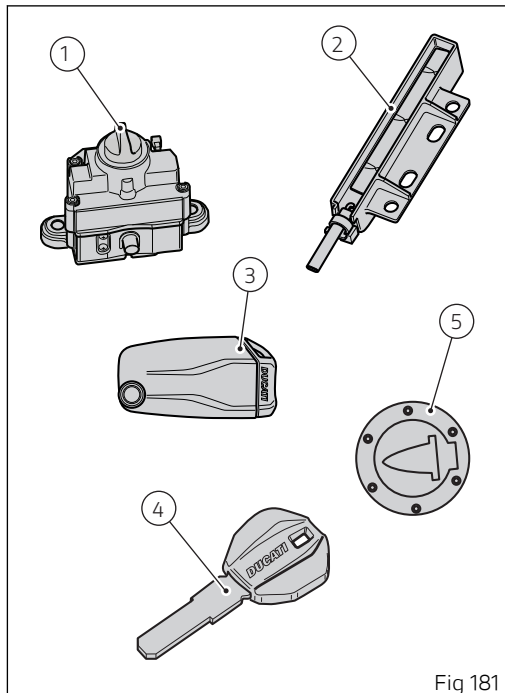

Fig 181
The "Hands free" unit (1, Fig 181) is located on the tank front end.
(1, Fig 181). When speed is not equal to zero, perform key-off by turning the Hands free button (1, Fig 181).
Key-On can be performed by pressing button (6) on the handlebar and with the presence of the active key (3, Fig 181).
Key-Off can be performed by pressing the button (6) on the handlebar. It can also be performed without the key (3, Fig 181) only if motorcycle speed is equal to zero.
Key-On can be performed by turning button (7) on the Hands free unit (1, Fig 181) and with the presence of the active key (3, Fig 181).
Key-Off can be performed by turning button (7) on the Hands free unit (1, Fig 181), also without the key (3, Fig 181).
Key-On can be performed by pressing the gray button (6) on the handlebar and with the presence of the passive key (4, Fig 181).
Key-Off can be performed by pressing the gray button (6) on the handlebar. It can also be performed without the key (4, Fig 181) only if motorcycle speed is equal to zero.
Key-On can be performed by turning button (7) on the Hands free unit and with the presence of the passive key (4, Fig 181).
Key-Off can be performed by turning button (7) on the Hands free unit (1, Fig 181), also without the key (4, Fig 181).
Key-On can be performed by turning button (7) on the Hands free unit (1, Fig 181) without the presence of the keys (3) and (4) and by entering the pin code on the instrument panel.